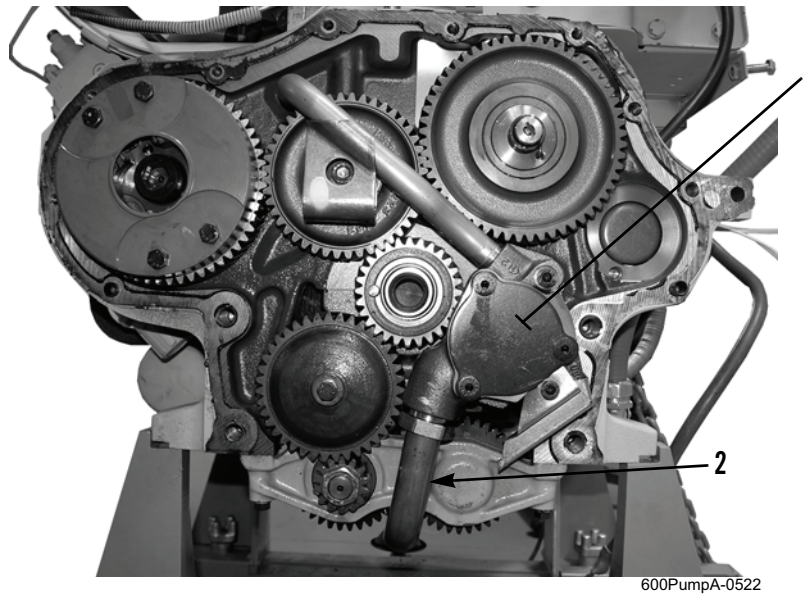
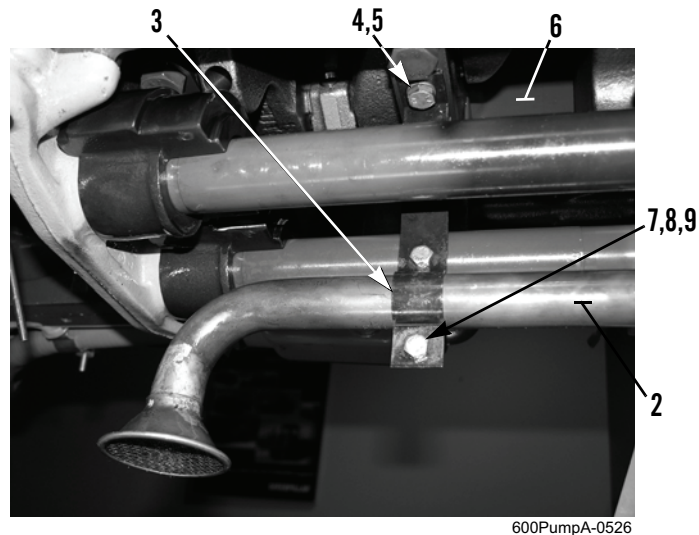

Figure 1. Oil Suction Line.
Figure 2. Oil Suction Line.
1. Disconnect oil suction line (Figure 1, Item 2) from oil pump (Figure 1, Item 1).
2. Remove two nuts (Figure 2, Item 7), lockwashers (Figure 2, Item 8), and capscrews (Figure 2, Item 9) from clamp (Figure 2, Item 3) at oil pan end of oil suction line (Figure 2, Item 2). Discard lockwashers.
3. Remove capscrew (Figure 2, Item 4) and lockwasher (Figure 2, Item 5) from clamp (Figure 2, Item 3) and engine block (Figure 2, Item 6) and release oil suction line (Figure 1, Item 2). Remove oil suction line. Discard lockwasher.